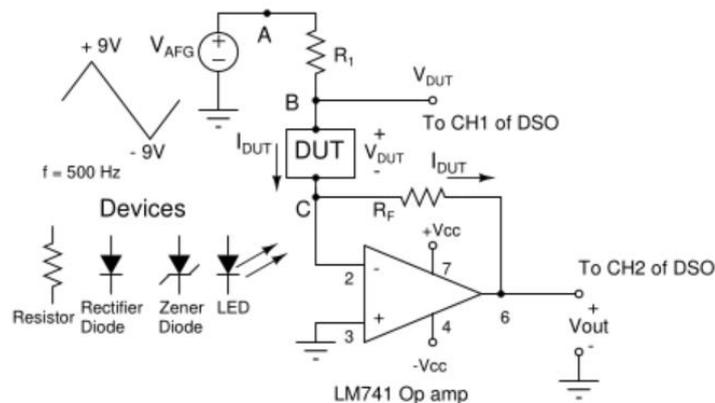

Fig. 4 LM741 Op amp based current-to-voltage converter for obtaining the V-I characteristics of diodes
Circuit diagram to be used for plotting the V-I characteristics of diodes is shown in Fig.4. Following are the major blocks of the circuit.
In Fig.4, resistance R_1 is used as a current-limiting resistor. We shall choose $R_1 = 1\text{ k}\Omega$ to limit the maximum current to roughly 8 mA. Almost the entire current (I_{DUT}) will flow from the V- terminal through R_F to the V_{out} terminal of the Op amp. Hence, $V_{out} = -I_{DUT} R_F$. We shall choose $R_F = 1\text{ k}\Omega$. Thus, a device current of 1 mA will make $V_{out} = -1\text{ V}$.
- b) Wire the current-to-voltage converter circuit shown in Fig.4. Note that with reference to Fig.4, $I_{DUT} = I_{Res}$; $V_{DUT} = V_{Res}$.
- d) Observe the XY plot of the given IN4007 Rectifier diode. With reference to Fig.4, the voltage across the diode (V_{DUT}) is the X waveform (CH1) and the current through the diode (I_{DUT}) is the Y waveform (CH2).